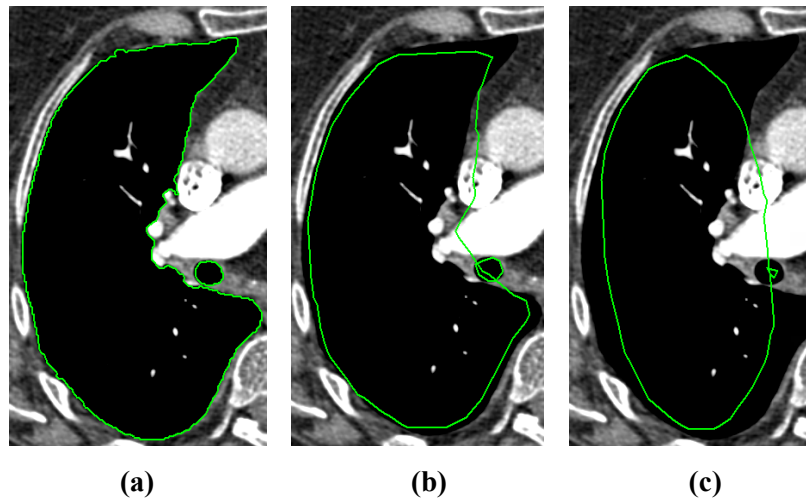

Figure 224 – (a) Source ROI, (b) smoothen ROI (1st applied), (c) smoothen ROI (5th applied)
4. Push the **Apply** button as many times as necessary to achieve the desired setting. The result is immediately displayed in the current view (see Figure 224).